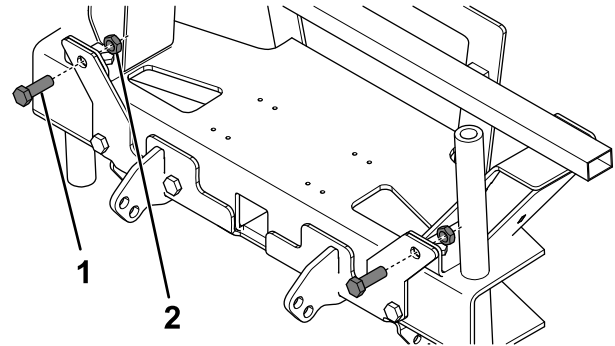

Figure 7
10. Loosely attach the plow skid plate to the mounting brackets using 2 bolts (1/2 inch) and locknuts (Figure 7).